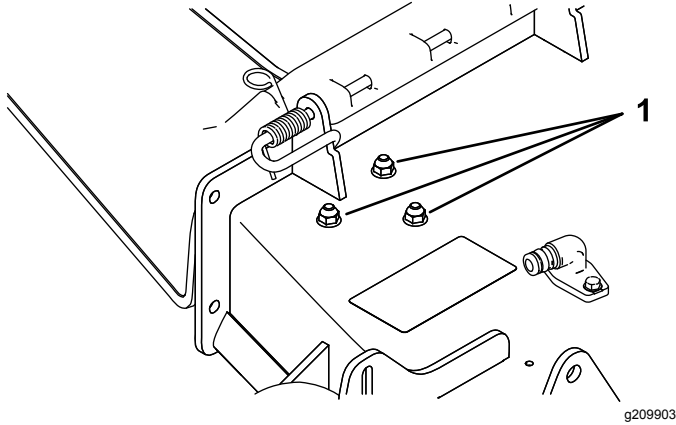

Figure 5
1. Remove the nuts and bolts from the location shown in Figure 5.